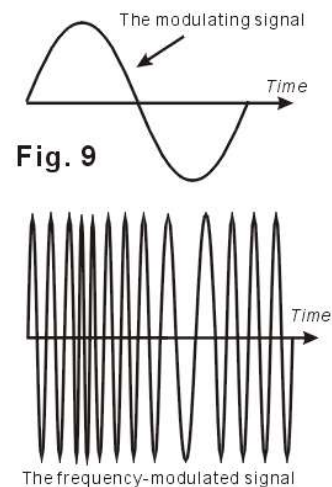

Fig. 9
In **frequency modulation** (FM), unlike AM, the amplitude of the carrier is kept constant, but its frequency is altered in accordance with variations in the audio signal being sent. See Fig. 9. Note how "compression" and "stretching" of the modulated signal is shown in the diagram of the modulated signal - indicating increase and decrease of the carrier signal frequency.